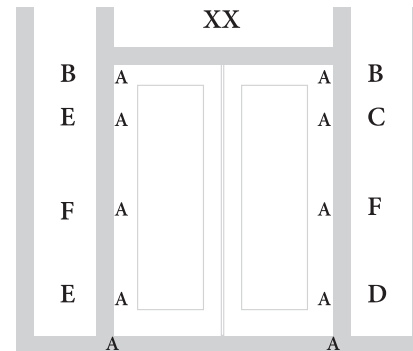

Figure 4 (left): Install the shims in the correct locations and in the correct sequence.
Caution: Do not open door panel greater than 30 degrees until 2 1/2" screws have been installed. (Points C, D, E, and F in Figure 4).
- + Stand on the inside of the door and center the door in the opening. Shim tightly at the bottom of the unit (Points A in Figure 4).
This will keep the door centered and the frame tight against the sill. Shim the top of the frame (at Point B in Figure 4). Install shims until there is a 1/8" gap between the top of the door slabs and the frame header. This will hold the door tight in its position relative to the frame. The door should operate freely with nothing but shims holding it in place.
Door panels with glass inserts may sag toward the center. This is normal. To correct sagging, align the flush bolts on the fixed door with clearance in the header and sill. Most units do not have pre-drilled holes in the header and sill. Holes must be drilled. Slide top flush bolt up against header and bottom bolt down against threshold to mark. Mark where bolts make contact with header and sill with pencil. Drill holes on marks to receive bolts (1 1/2" deep minimum). Once holes are drilled, close panel and engage bolts making sure they extend far enough to secure unit. If there is a gap between the threshold and weatherstrip, block around the foot bolt, the hole is not deep enough (the weatherstrip must touch the threshold to properly seal the unit). Shim tightly behind the vacant hinge screw hole in the bottom hinge (Point C in Figure 4) until the lower flush bolt slides freely into the clearance hole in the
Shim behind the vacant hinge screw hole in the top hinge (Point D in Figure 4) to align the top flush bolt with the clearance hole in the header (Figure 5). Secure with the 2 1/2" installation screw supplied, through the hinge jamb and into the stud.
Standing on the inside, shim behind each of the vacant hinge screw holes in both the top and bottom hinge on the operating door (Points E in Figure 4) until there is a consistent 1/8" gap along the entire height of the door between the operating door and the passive door. There should also be a 1/8" gap between the top of each door slab and the header. When shims are properly installed, the frame should not move or twist when the screws are tightened and counter-sunk, this maintaining the 1/8" gap. If there is any movement, loosen the screws and shim tighter to maintain the 1/8" gap, then retighten the screws.
Using the supplied 2 1/2" installation screws, drive a screw through the vacant holes in both the top and bottom hinge on the operating door (Points E in Figure 4), through the jambs and into the stud.
Shim behind the vacant hinge screw holes in each of the center hinges (Points F in Figure 4) and secure using the supplied 2 1/2" installation screws.